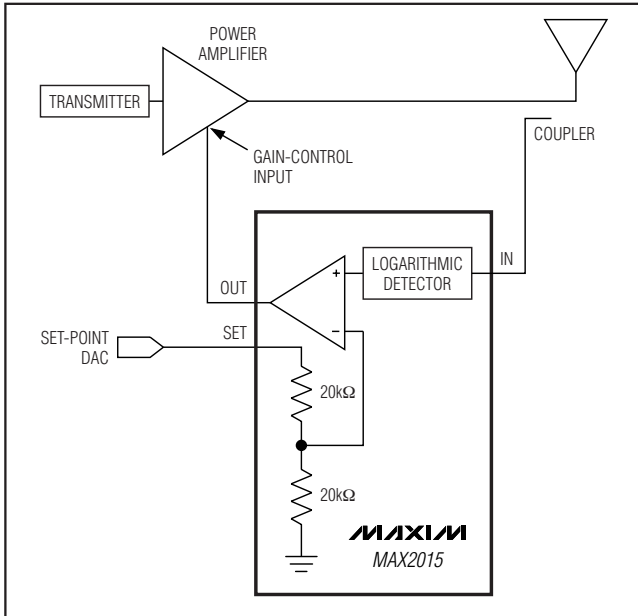

Figure 2. MAX2015 in Controller Mode
For operation in controller mode, remove R1 and set R6 to 0Ω. Use a DAC or external precision voltage supply to apply the set-point voltage to the VSET SMA connector. RF\_IN is connected to the RF source (power amplifier (PA) output through a directional coupler) and VOUT is connected to the gain-control pin of the PA (see Figure 2).